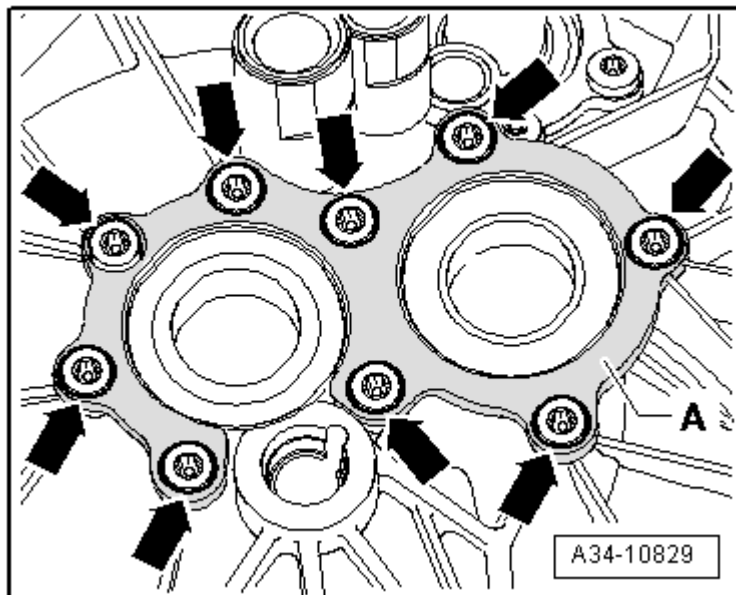

Fig. 74: Identifying Bolts -Arrows- To Remove Plate -A-
- First, remove the plate that locks the ball bearings in place; refer to **Fig. 74.**
-- Next, remove the plate that locks the ball bearings in place, refer to **Fig. 74**.
- First, remove the plate that locks the ball bearings in place, refer to **Fig. 74**.